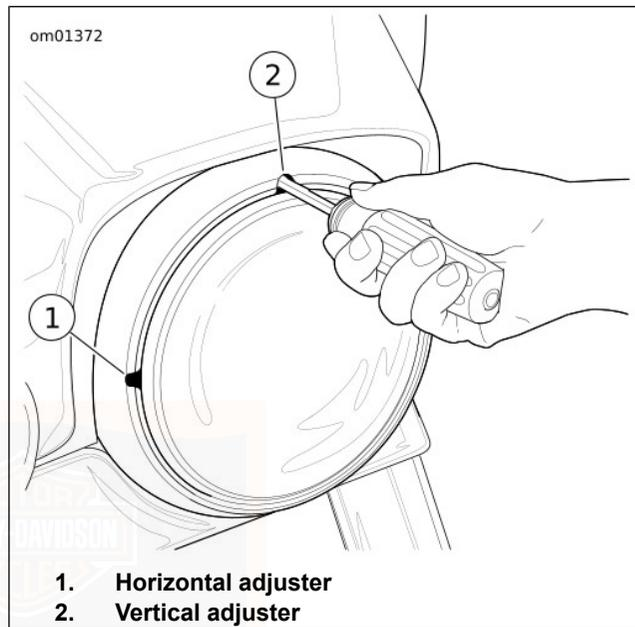

Figure 57. Headlamp Adjusters (typical)
1. See Figure 57. Using adjuster slots in trim ring, insert Phillips screwdriver between headlamp trim ring and rubber gasket.